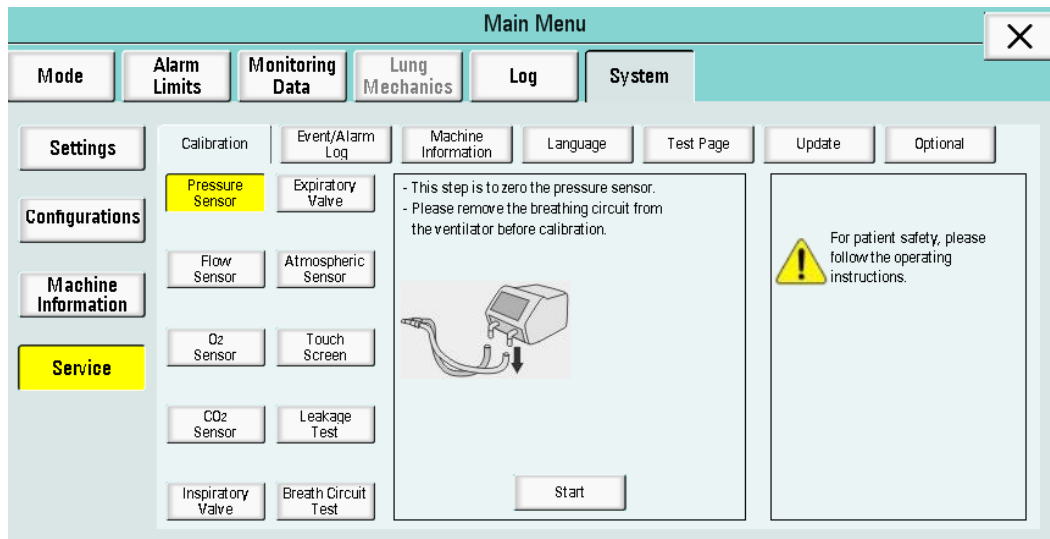

Figure 6-62
The calibration choices include: Pressure Sensor Calibration, Flow Sensor Calibration, O₂ Sensor Calibration, CO₂ Sensor Calibration, Inspiratory valve Calibration, Expiratory Valve Calibration, Atmospheric Sensor Calibration, Touch Screen Calibration, Leak Test and Breath Circuit test, as shown in Figure 6-62.
(1) Pressure Sensor Calibration: Click “Pressure Sensor” to enter the calibration interface. A message is displayed: “This step is to zero the pressure sensor. Please remove the breathing circuit from the ventilator before calibration.” A legend is displayed as well, as shown in Figure 6-62.